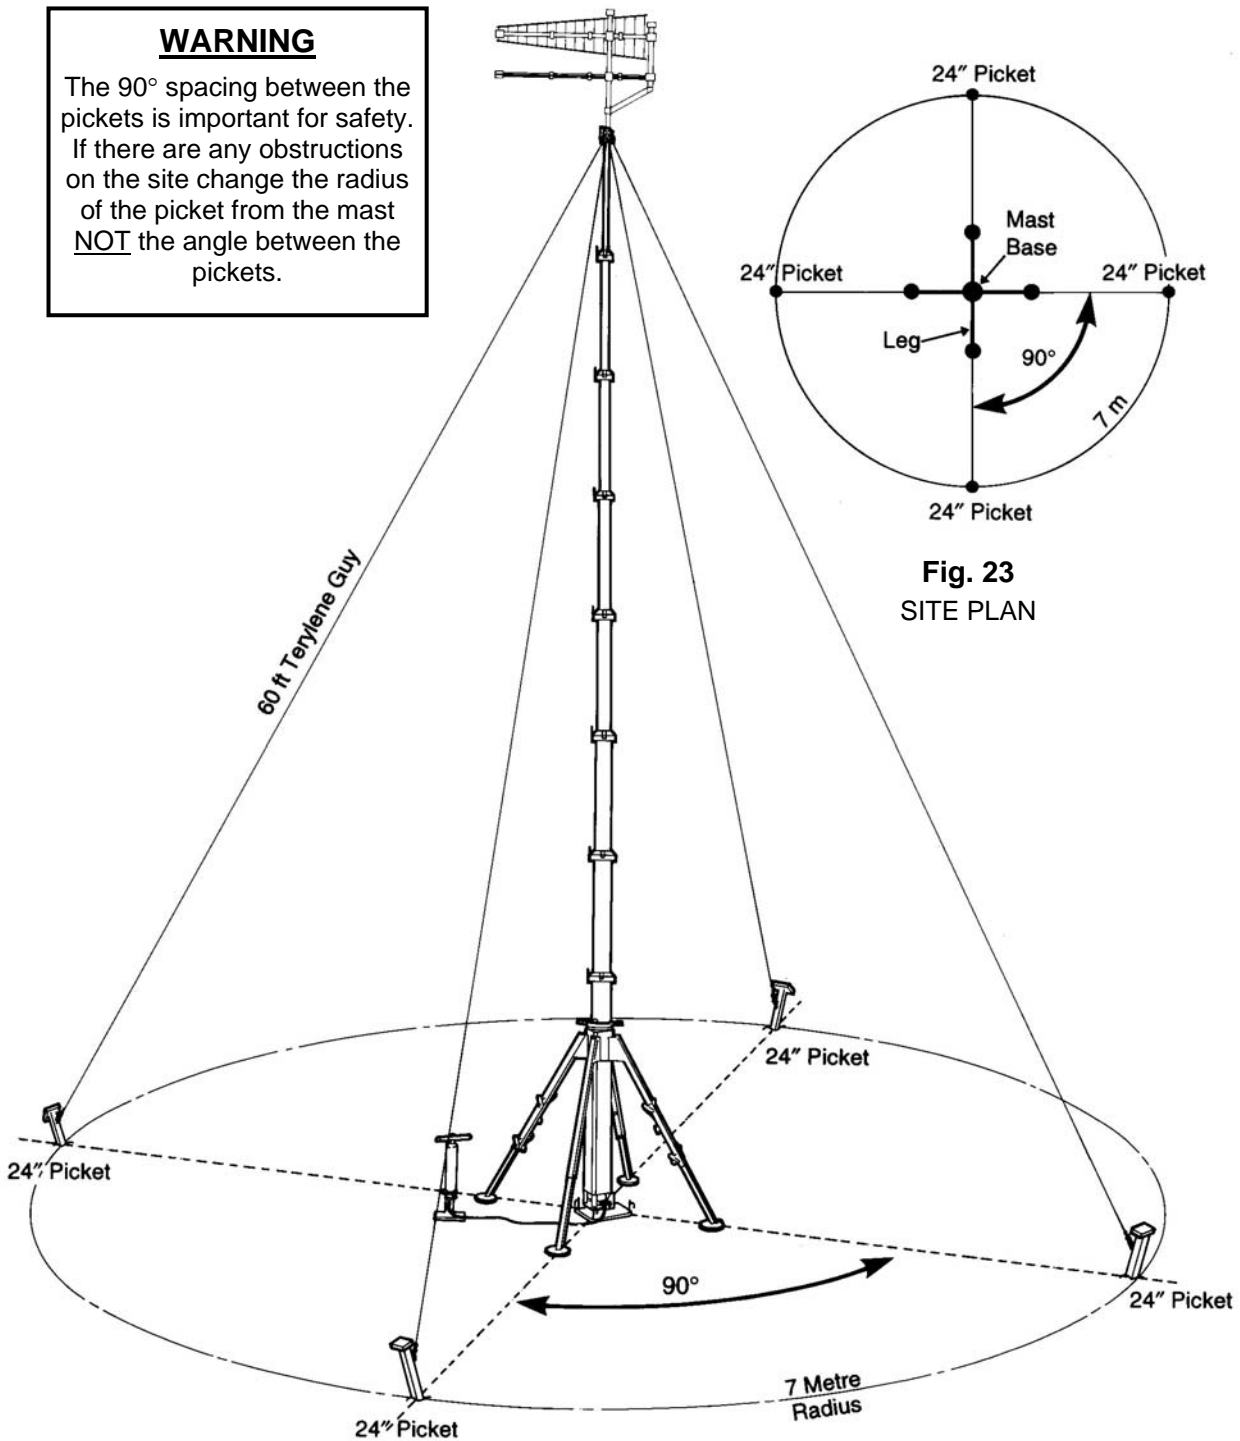

Fig. 24
10. **THE MAST MUST BE GUYED PROPERLY AT THE CORRECT PICKET RADIUS.** **DO NOT** reduce the radius or angle of the pickets. The pickets **MUST** be set out at as shown in Fig. 24 Layout of Erected Mast on page 22.